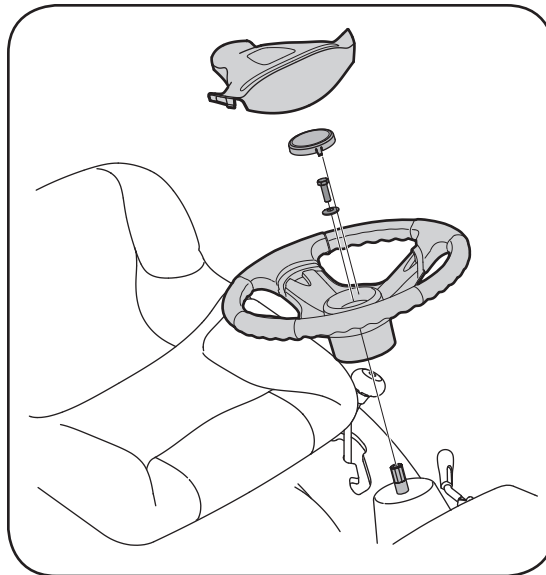

Figure 3-3
NOTE: There are two different styles of steering wheel cap. See Figure 3-3. Styles vary by model.
2. Place the washer (with the cupped side down) over the steering shaft and secure with the hex bolt. See Figure 3-3.